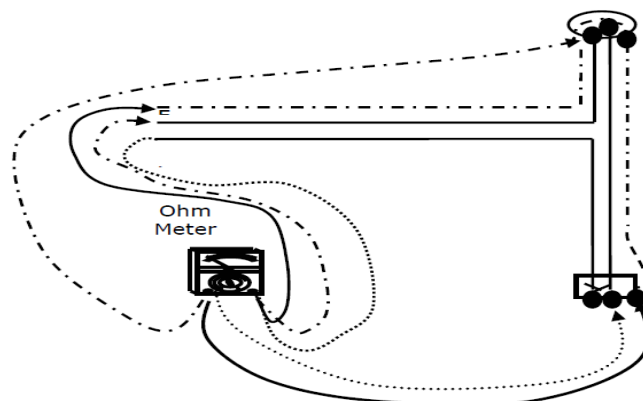

Figure 1.73 Live and Neutral Conductor Continuity Test
- ✓ Carry out the test as shown in Figure 1.73;